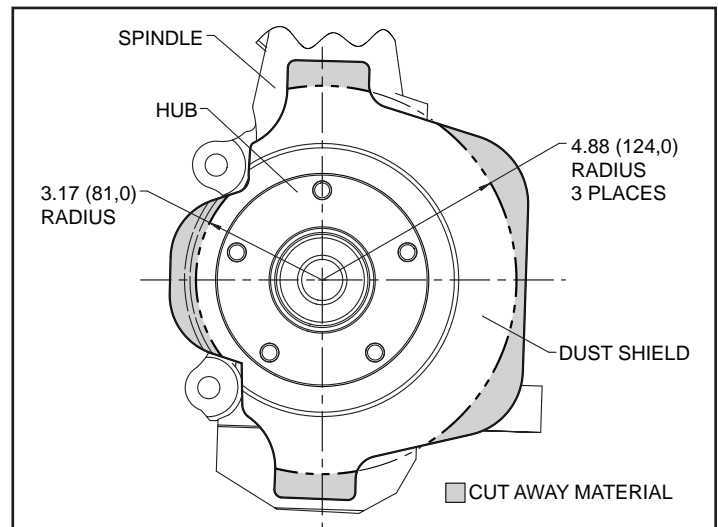

Figure 3. Dust Shield Modification
•The front dust shield needs to be modified (cut) as shown by the dotted lines/shaded area in Figure 3, to clear the new Wilwood rotor and caliper. **NOTE:** It is recommended that the dust shield be removed before modification, and the modification be performed by a qualified machine shop.